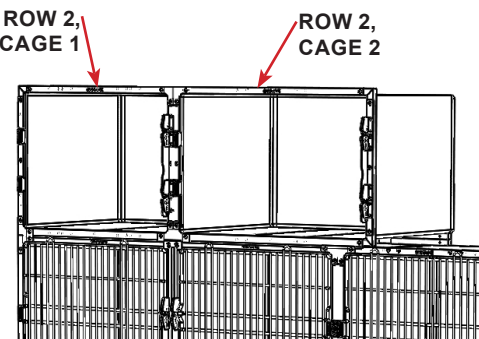

FIGURE 2.39 - Cage Installation
**STEP 13:** Lift and set the second cage into place on the platform. See FIGURE 2.39